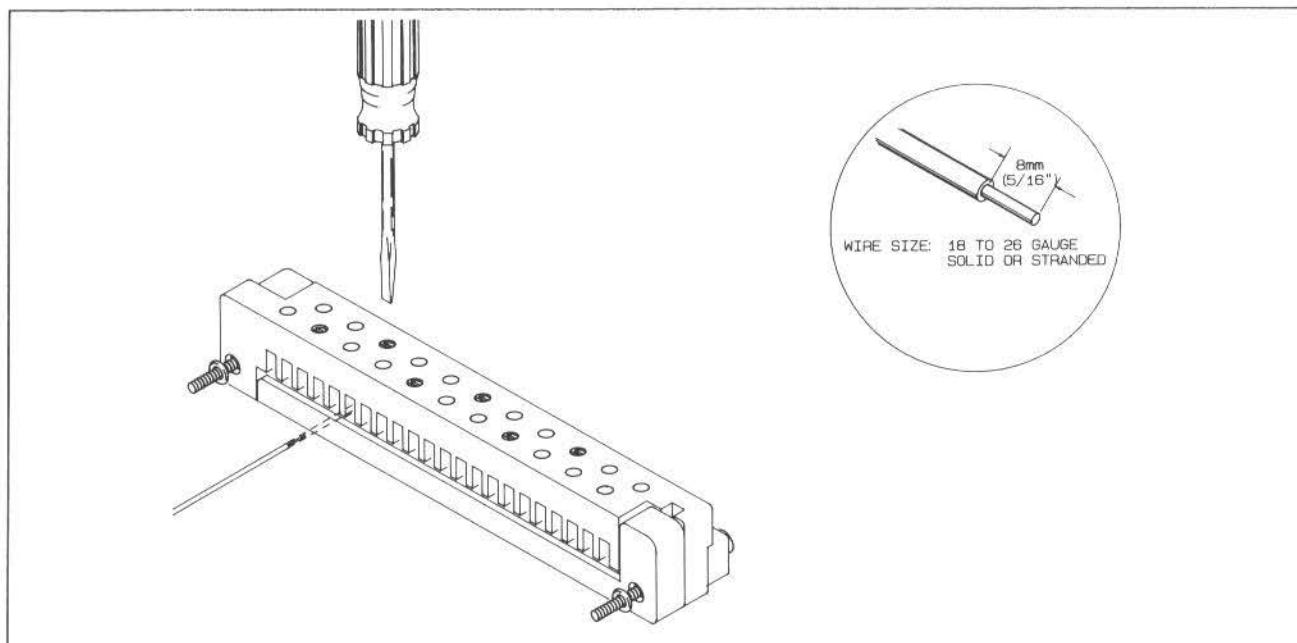

Figure 2-14. Wire Connection
- d. Loosen the appropriate retaining screw, insert the stripped end of the wire into the slot, and retighten the retaining screw (Figure 2-14).